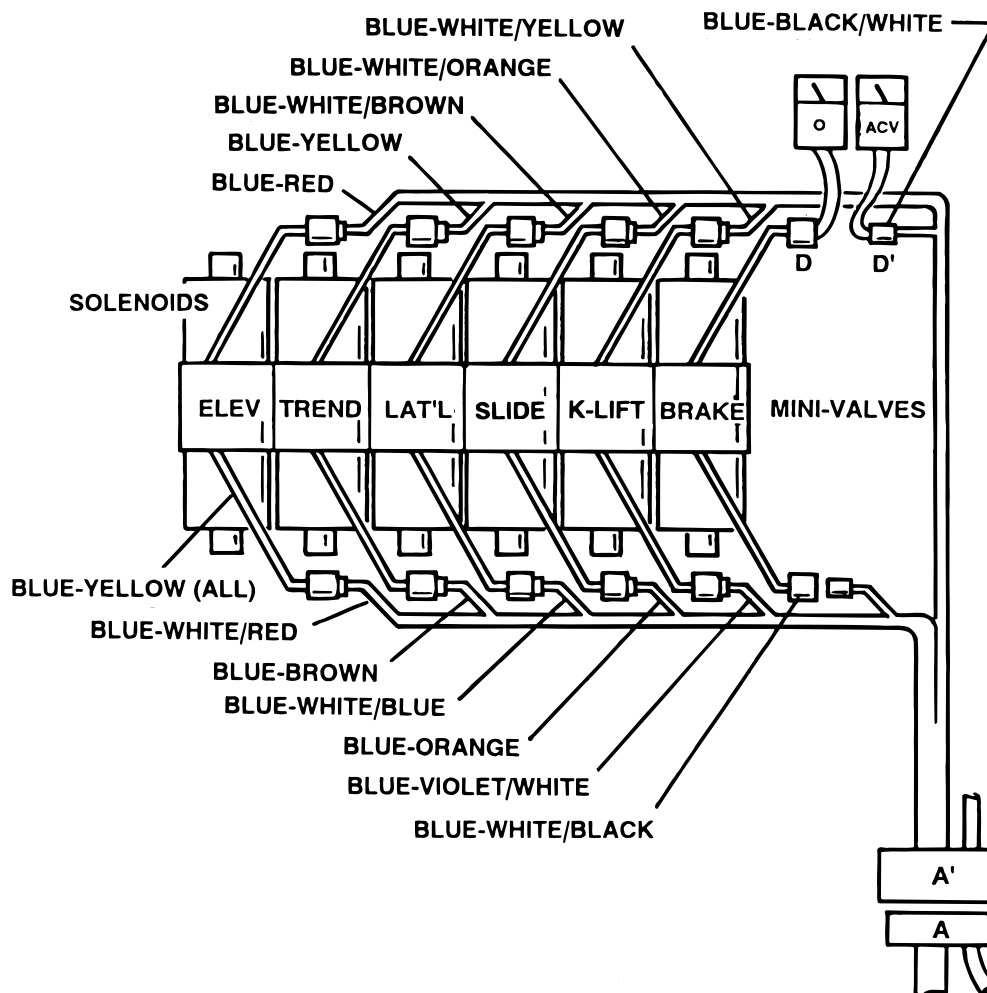

Figure 5-11. Solenoid Test
2. Disconnect the 2 pin connector from the solenoid in question, connector D' shown for example in Figure 5-11.
1. Measure the resistance between the two pin connector in question, connector D shown for example in Figure 5-11. Connector must be disconnected. Polarity of meter leads is not important.